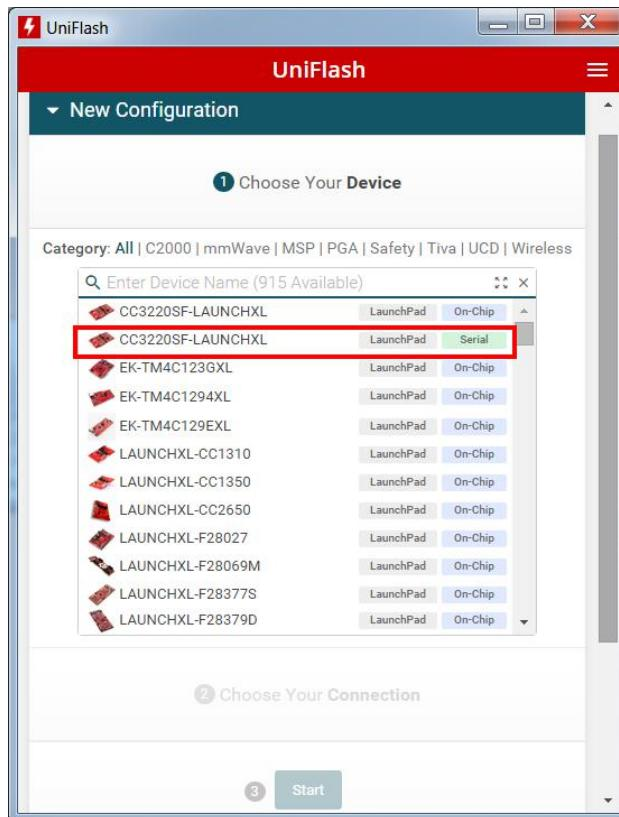

図 15. Select CC3220 Device
2. On the *Choose your Device* section, select CC3220SF-LAUNCHXL. Make sure the *Serial* option is selected and not *On-Chip* as shown in 図 15. Click on the *Start Image Creator* button.